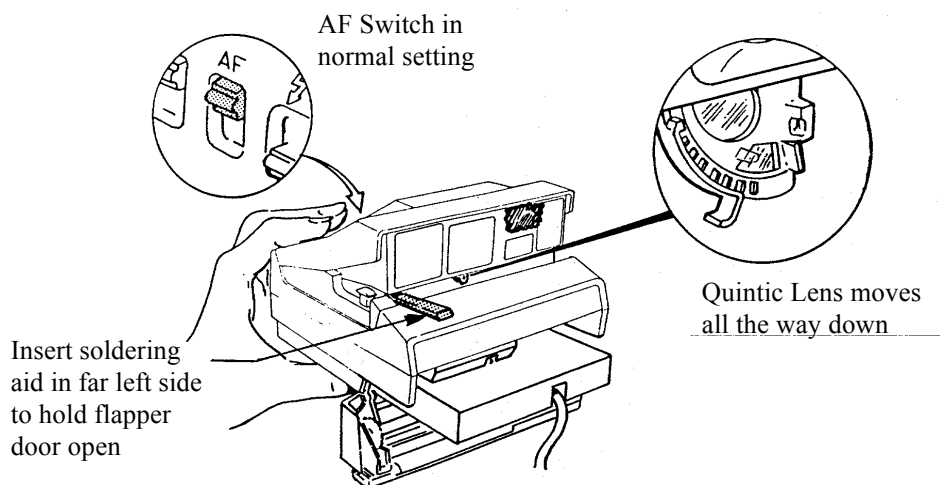

Figure 3-4 Quintic Lens Moves to Short-Distance Setting
13. Move the strobe switch on the camera control panel to the down (OFF) position. Turn the front of the camera toward you. Cover the photocell with black photographic tape. Insert a soldering aid between the flapper door and the bottom of the shutter (Figure 3-4).
The moving Quintic frame should swing down below the level of the shutter during the exposure and should be visible through the open flapper door as seen in Figure 3-4. (This is the short distance Quintic position.)